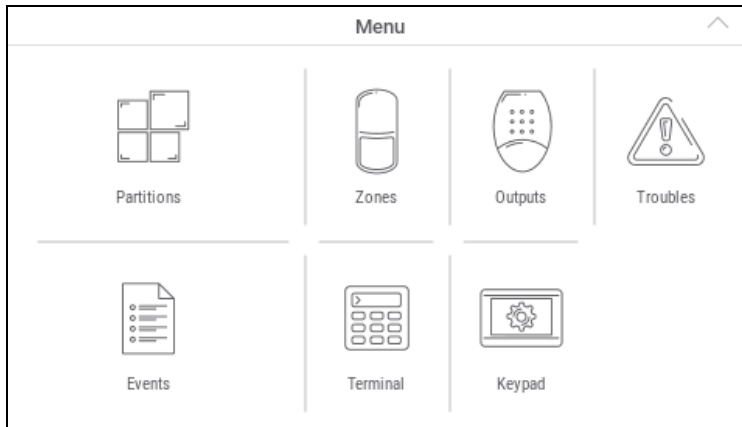

Fig. 9. User menu home screen.
- 3. Enter the service code (by default: 12345) and tap . The user menu home screen will be displayed (Fig. 9).